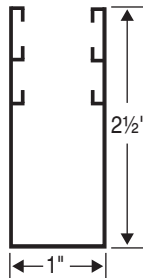

Figure 9
- ① Side Channels come in 16' lengths and must be cut to the height required. Measure and cut Clip and Closure extrusions to fit installation requirements (see Fig. 9).
- ② Drill holes in Side Channels for mounting to wall or jamb.